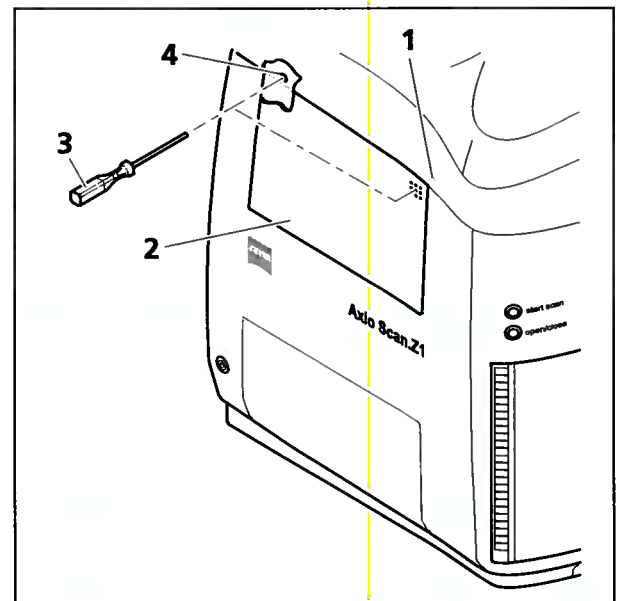

Fig. 6-8 Removing the cover
The cover (Fig. 6-8/2) has an interlock that immediately interrupts all movements as soon as it is removed, i.e. an ongoing digitization process will be aborted and subsequently cannot be resumed.
- Remove the cover from the front of the device (Fig. 6-8).
- To do this, insert the supplied Allen screwdriver (wrench size 3 mm, Fig. 6-8/3) into the left-hand indentation (Fig. 6-8/4) of the joint between the cover and housing on the front of the device until the catch releases the left side and the cover (Fig. 6-8/2) pops out slightly.
- Then push the Allen screwdriver into the right indentation (Fig. 6-8/1) until the right side of the cover also pops out.
- Insert the retaining tabs on the underside of the cover (Fig. 6-8/2) into the holding slots in the housing and press the upper side of the cover onto the housing until the catches on the left and right are securely engaged.